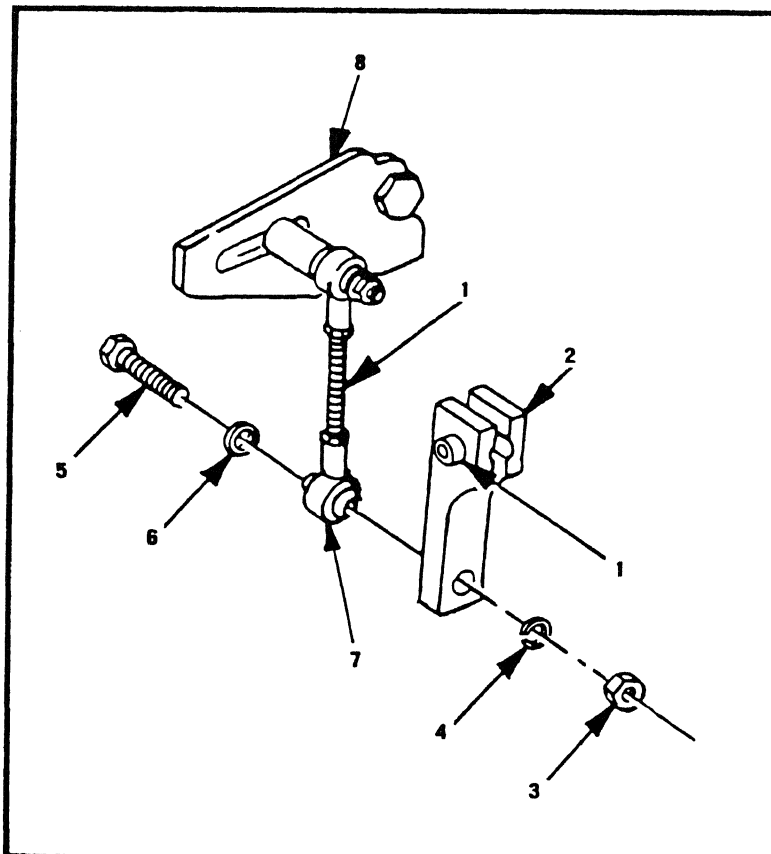

Figure 4-40. Actuator Lever to Actuating Rod Removal and Installation.
- h. On Model 13226E2289 (97403), disconnect actuating rod (1), Figure 4-40) from actuator lever (2) by removing nut (3), lockwasher (4) bolt (5) and washer (6). Pull rod end (7) away from lever (2). Press down on shutdown lever (8) and wire it in this position which is the full shutdown position.
- u. On Model 13226E2289, install rod end (7, Figure 4-40) to actuator lever (2). Secure with bolt (5) washer (6), lockwasher (4) and nut (3).